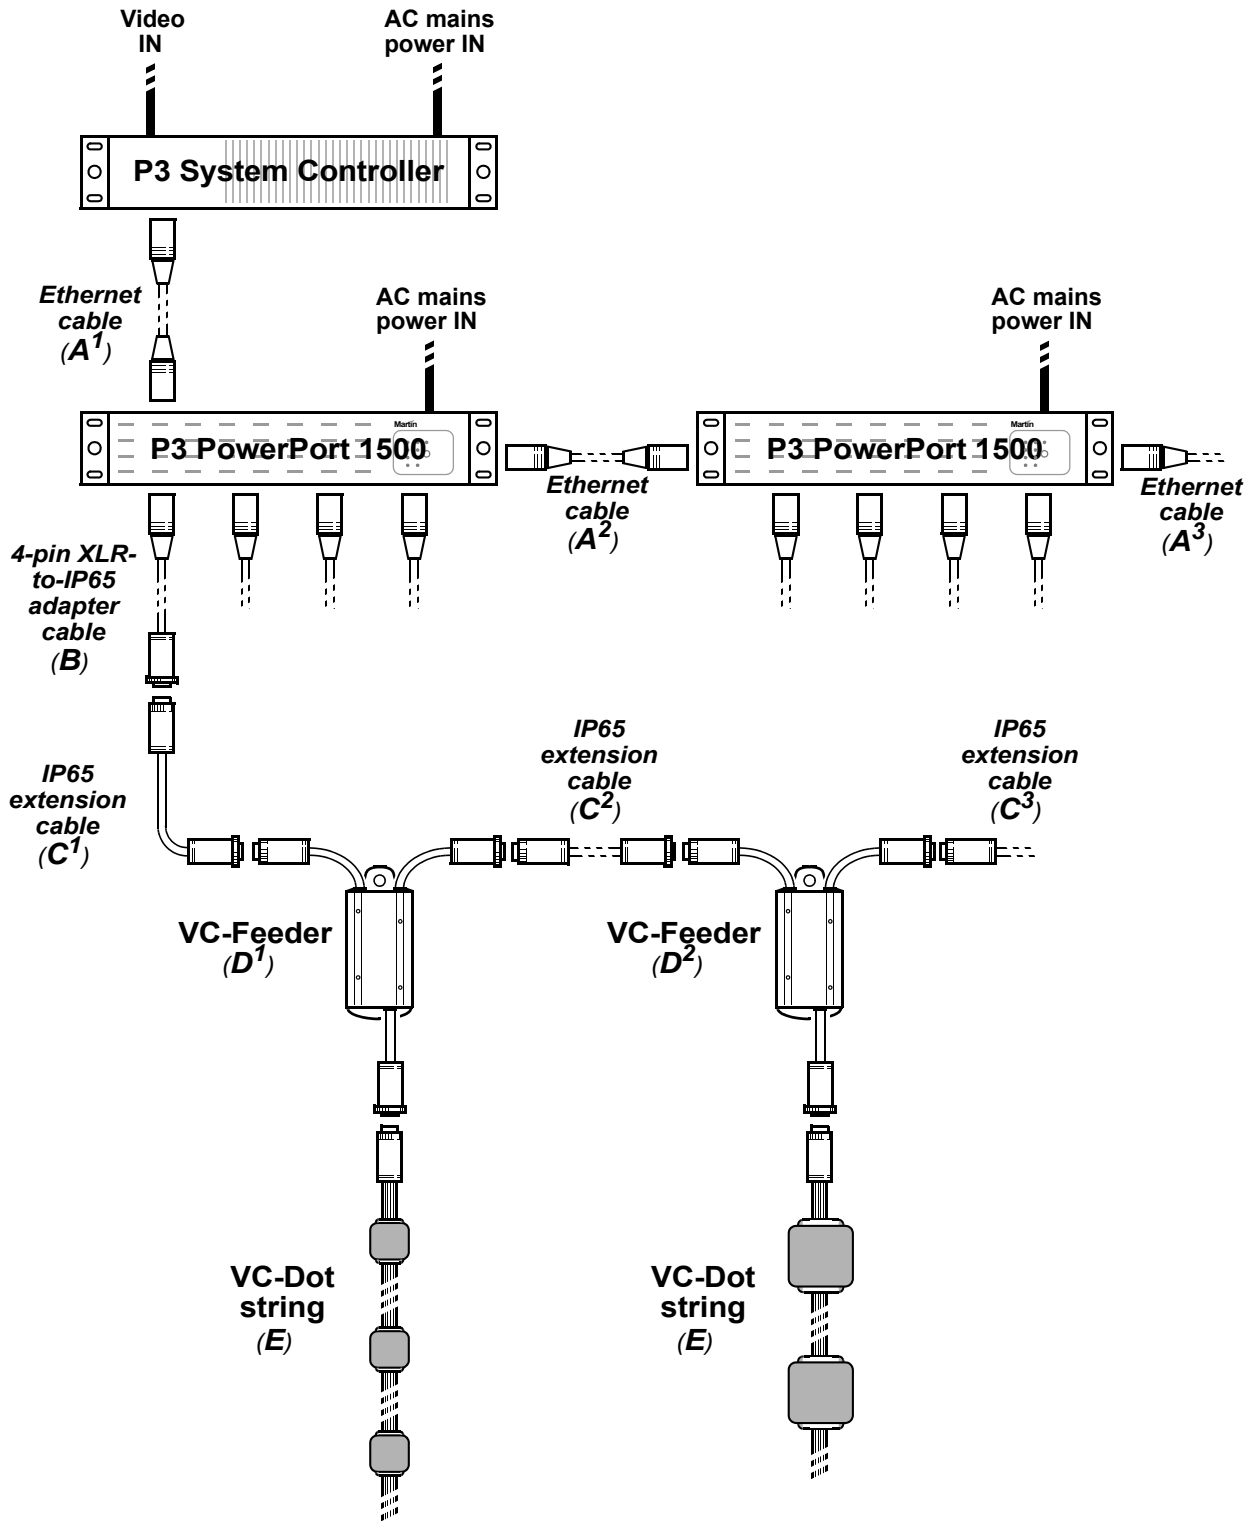

Figure 2: P3 video system layout
- a single VC-Feeder that is not linked to other VC-Feeders in a chain (**C¹** in Figure 2 on page 11) or
- the last VC-Feeder on a chain of VC-Feeders (total of **C¹ + C² + C²** etc. in Figure 2 on page 11)
Figure 2 gives a schematic overview of a VC-Dots™ system for P3 video display.
Ethernet Cat 5e or better cable is required for the P3 video data link (**A** in Figure 2).
A P3 video data link cable run (**A** in Figure 2) between any two devices on the link can be up to 100 m (328 ft.) in length. If necessary, a cable run can be extended beyond 100 m by inserting an unmanaged Ethernet switch or using a fiber-optic system (see the P3™ system controller user manual for details).
You can connect up to fifty P3 PowerPort 1500s in a P3 data daisy-chain (**A** in Figure 2). If you need to connect more than fifty, use an unmanaged Ethernet switch to split the P3 data link into chains, each containing maximum fifty P3 PowerPort 1500s.
4. See Figure 2. Create a P3 video data link from the Martin P3™ system controller to a Martin P3 PowerPort 1500™ using Ethernet Cat 5e or better network cable **A**¹.
Figure 2 gives a schematic overview of a VC-Dots™ system for DMX-controlled lighting effects.